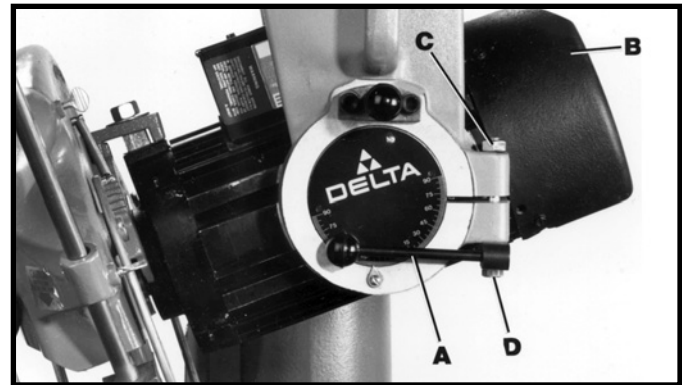

Fig. 38
If the bevel clamp handle (A) Fig. 38 does not securely lock the motor when the handle is in the locked position, an adjustment can be made.
1. Place motor (B) Fig. 38, in a bevel cutting position between positive stops, as shown, and place bevel clamp handle (A) in the locked position, as shown.
2. Loosen nut (C) Fig. 38, and tighten bolt (D) until motor is locked.
3. While holding bolt (D) Fig. 38, tighten lock nut (C).